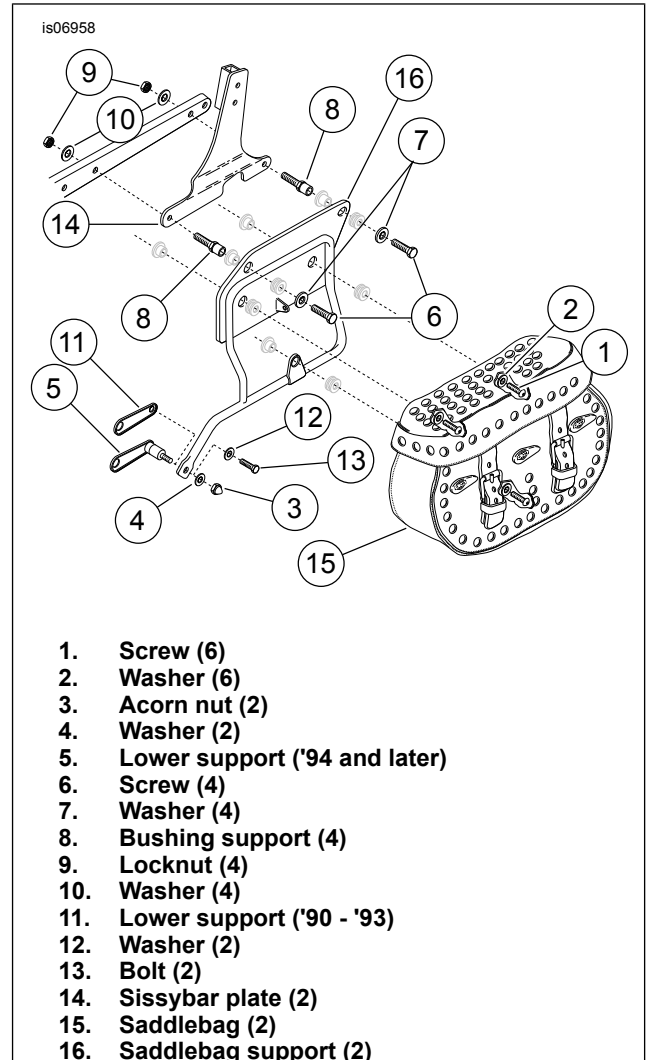
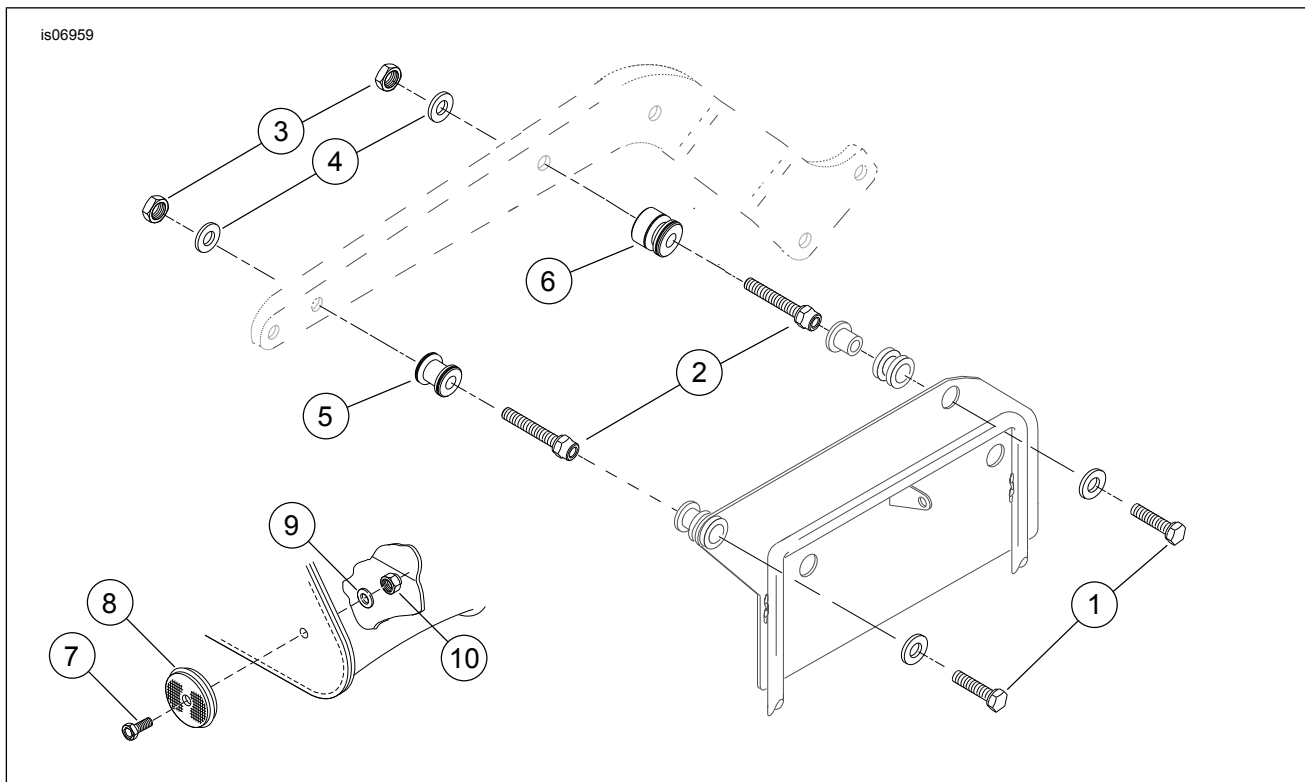

Figure 1. Saddlebag/Sissybar Assembly (left side)
Figure 2. Service Parts: FLSTC Docking Hardware Kit
See Figure 2 and Table 1.
1. See Figure 1. Remove screws (1) and washers (2) from saddlebag support at three places. Remove saddlebag from saddlebag support.
2. Remove saddlebag support from lower front support assembly (5 or 11). On 1990 through 1993 model vehicles, remove bolt (13) and washer (12). On 1994 and later models, remove acorn nut (3) and washer (4).
3. Remove and discard screws (6). Remove washers (7). Remove saddlebag support from fender support.
4. Remove and discard locknuts (9), washers (10) and upper bushing supports (8) from fender support and fender.
See Figure 2. The rear docking point (5) is wider than the front docking point (6).
1. See Figure 2. Install the front docking point (6) and rear docking point (5). For each docking point, place the countersunk side of the docking point so it faces towards the support cover. Insert the bushing support (8) through the docking point and into the fender, then install the washer (4) and locknut (3) on the inside of the fender. Torque the bushing supports (2) to 37 N·m (27 ft-lbs).
1. See Figure 2. Place stock washers removed in step 3, page 1, onto screws (1) from kit.
2. Place screws (1) through saddlebag support and thread screws into bushing supports (2). Tighten screws (1) to 20–26 N·m (15–19 ft-lbs).
3. See Figure 1. On 1990 through 1993 vehicles use washer (12) and bolt (13) retained in step 2 on page 1. Attach bottom part of saddlebag support to the lower support (11). Tighten bolt (13) to 22–27 N·m (16–20 ft-lbs). On 1994 and later vehicles use acorn nut (3) and washer (4) retained in step 2 on page 1. Attach the bottom part of the saddlebag support to the lower support (5). Tighten acorn nut (3) to 22–27 N·m (16–20 ft-lbs).
1. See Figure 1. Reattach left and right side saddlebags to saddlebag supports by reversing the Saddlebag Removal procedure on page 1.
1. See Figure 2. Align round reflector with saddlebag. Mark reflector mounting position on saddlebag.
3. Install screw (7) to reflector (8) and insert screw to saddlebag. From inside saddlebag install washer (9) and nut (10) and tighten as needed.